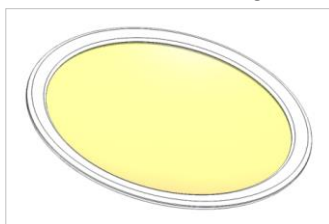

Fig. 5.2.1. Sieve for inserting in the collecting basin
5. Place the sieve in the collecting basin (*Fig.5.2.1* / 5.2.2).